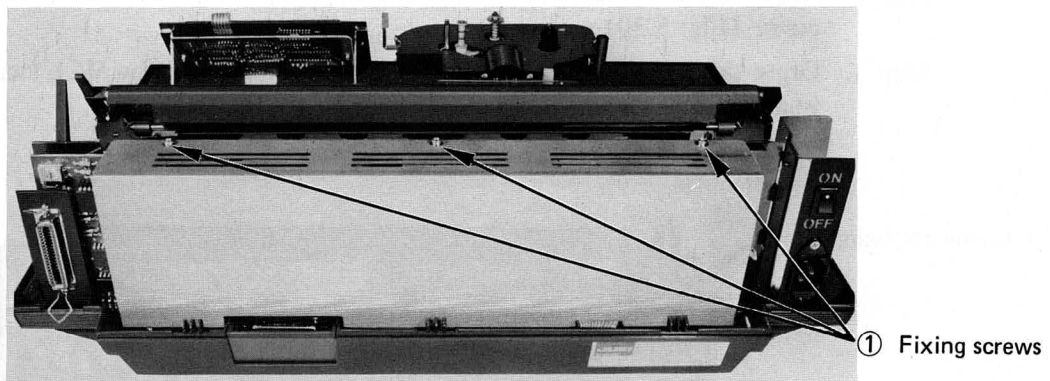

Fig. 5.28
Step 1. Loosen three fixing screws ① of the circuit board cover. (Fig. 5.28)